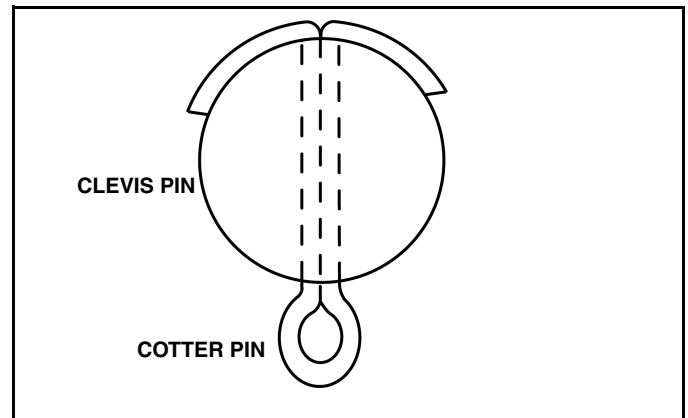
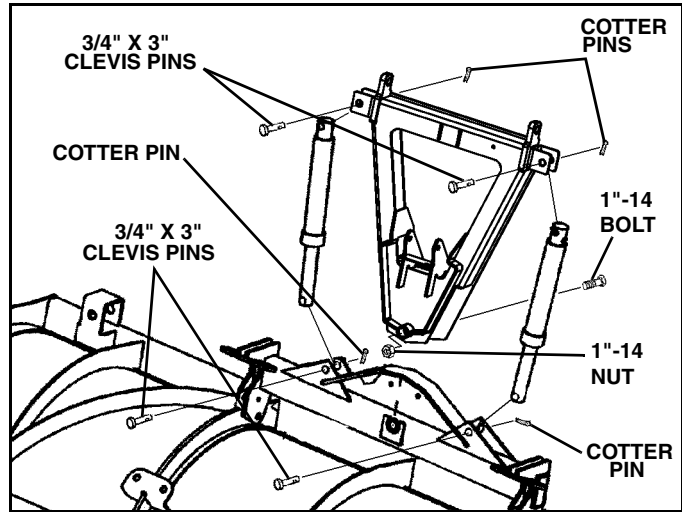

Figure 1-6
Figure 1-8
*NOTE: Note: Make sure cotter pin is properly bent as in fig. 1-6 or pin may work loose.*
11. Slide A-frame over top of the swing frame. Make sure the bell crank mounting brackets are on top. (See Figure 1-8).
12. Lubricate the 1" bolt from the A-frame parts bag and insert it through the A-frame and swing frame. The bolt head should be on the bottom of the plow. Install the 1" nut hand tight only. (See Figure 1-8).
13. Insert the swing cylinders and pin with the 3/4" x 3" clevis pins in the swing cylinder parts bag. (See Figure 1-8). Install cotter pins and bend as in fig. 1-6 to ensure pins do not work loose.
15. Pin the lift cylinder to the mounts on the A-frame using the 3/4" x 4" clevis pin in the A-frame parts bag. (See Figure 1-9). Install cotter pin and bend as in fig. 1-6 to ensure pin does not work loose.
22. Install 3/4" washer and cotter pin. Install cotter pin and bend as in fig. 1-6 to ensure pin does not work loose.